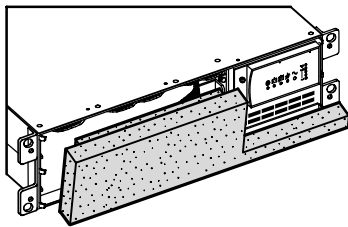

Figure 2. Removing the Packing Material
2. Remove the packing material (see Figure 2).